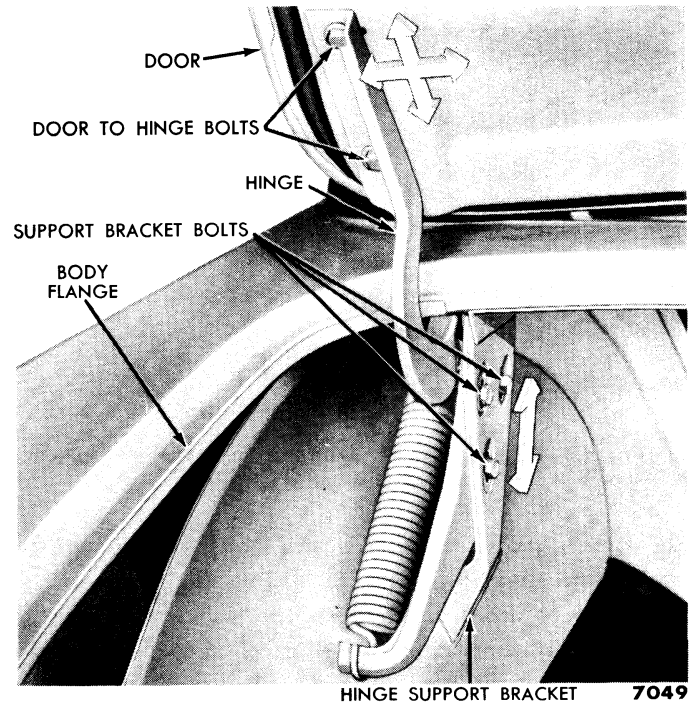

Fig. 17—Luggage Compartment Door
Disconnect the upper link of the lock actuating lever from the lock cylinder bell crank, and remove the lock assembly and the lock cylinder and sleeve assembly. Remove the handle and ornamentation. Remove the luggage compartment light, if so equipped, from the inner door panel. Remove the bolts that secure the luggage compartment door to its hinges, and lift the door from the vehicle (fig. 17).
Install the hinges on the support brackets, then install the attaching bolts (fig. 17). Mount the door on the hinges, and secure it with two attaching bolts at each hinge. Install the lock and lock cylinder assemblies, and connect the lock actuating lever. Install the handle and ornamentation. Align the door to fit the opening, and adjust the striker plate to the lock assembly. Install the luggage compartment light to the inner door panel if so equipped.
gage compartment door hinges in the elongated bolt holes at both ends of the hinges. Horizontal adjustment is made at the door to hinge bolts; vertical adjustment is made at the support bracket bolts (fig. 17). After any adjustment of the luggage compartment door, the striker plate adjustment should be checked.
(1) **HORIZONTAL.** Each of the door to hinge bolts goes through an elongated hole in both the hinge and the inner door panel, and threads into a floating tapping plate located between the inner and outer door panels (fig. 17). The bolt hole in the hinge is elongated for forward and backward movement; the hole in the door panel is elongated for side to side movement.
If the space between the door and its opening is unequal along the sides, top, or bottom, loosen the door to hinge bolts on both sides (fig. 17). Move the luggage compartment door forward or backward or from side to side, until it fits properly in the opening, then tighten the bolts.
(2) **VERTICAL.** Each luggage compartment door hinge is fastened to the hinge support bracket by three bolts. The bolt holes are elongated for up and down movement (fig. 17). Loosen the three bolts on each side, then raise the door to make it flush with the body, or lower it so it will press more firmly against the weatherstrip.